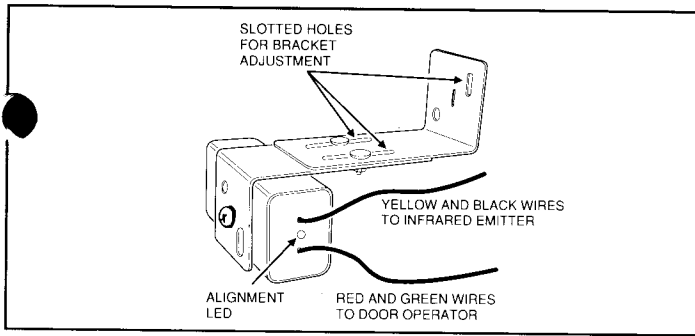

Figure 24
Step 46: Run the yellow and black wires attached to the detector up and over the door to the terminals on the emitter. Attach wires to emitter terminals by color as shown on label. (See Figure 24 and 25.) Use insulated staples to fasten wires to walls surrounding garage door.